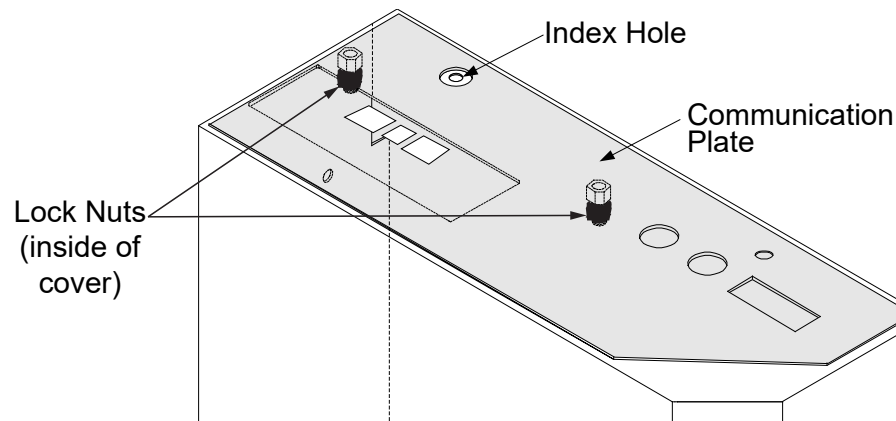

Figure 3-5 M-6200A Control Rear Cover, Communication Plate Orientation
1. Remove and discard the two lock nuts (Figure 3-5) from the inside of the rear cover; then remove the communication plate.
2. Insert the appropriate communication plate onto the top panel of the rear cover, ensuring that the index hole (Figure 3-5) is exposed.
3. Install the kit's lock nuts onto the communication plate's captive screws to secure the rear cover (Figure 3-5).